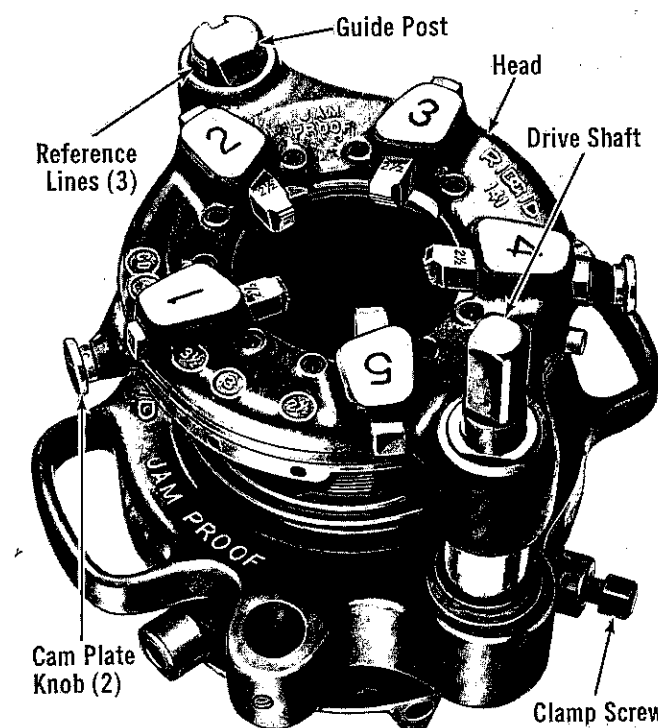

Figure 15. No. 141 Geared Threader with Drive Shaft Up (No. 161 Threader Similar).
7. Tighten Workholder Clamp Screw (Figs. 15 and 17) securely.
- 141 and 161** - Step on Foot Switch and reverse Threader one or two revolutions. Pull knobs (Fig. 15) and rotate Cam Plate as far as it will go towards CD mark on Head to disengage Dies.
- 141 and 161** - Loosen Jaw Clamp Screw (Fig. 15) and turn Workholder to OPEN position.
2. Pull Knobs (Fig. 15) of Cam Plate and rotate Cam Plate to desired pipe size marking on top of Die Head. Release Knobs when Locating Pins drop into holes in Selector Plate.
2. Pull Knobs (Fig. 15) and rotate Cam Plate to CD mark on top of Die Head.